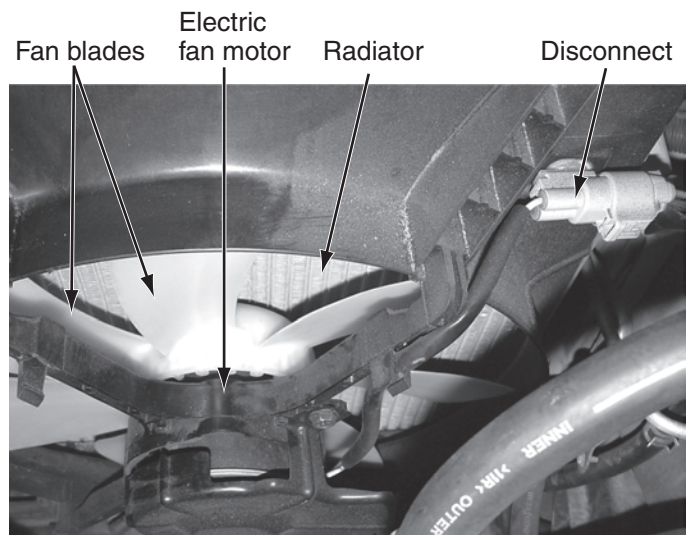

FIGURE 2.18 Disconnect the power to an electric cooling fan before working on it. (Courtesy of Tim Gilles)
- Disconnect electric cooling fans when working around them (Figure 2.18).